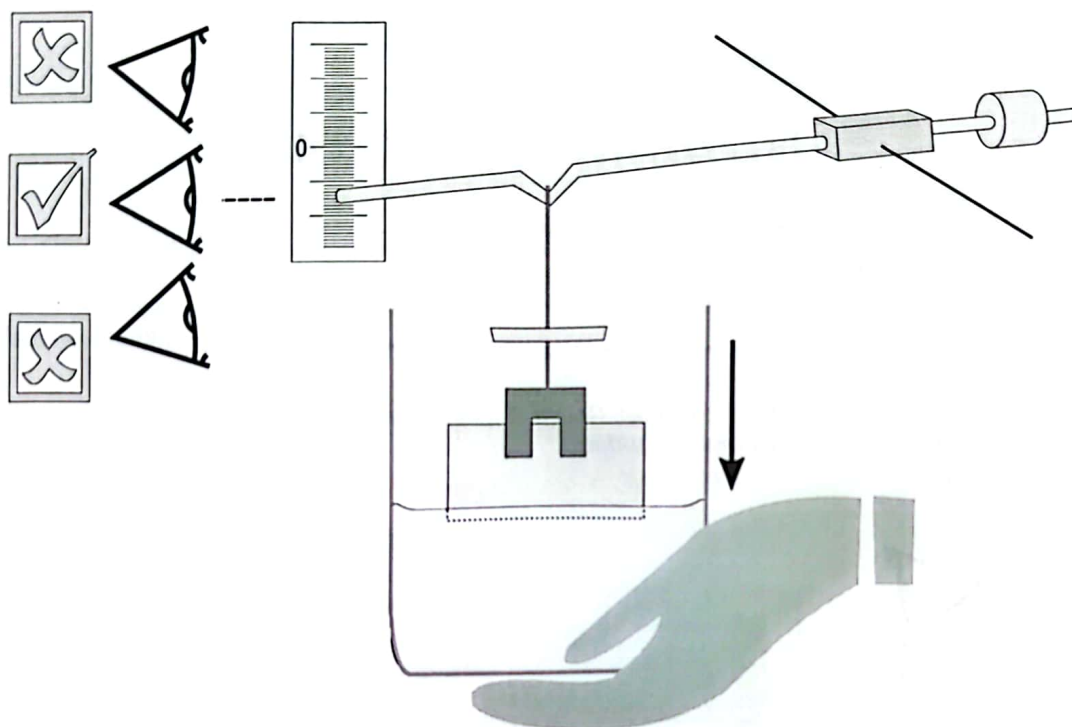

Figure 10 Lower the Container
- 7) As shown in Figure 10, slowly lower the container while watching the pointer against the scale.